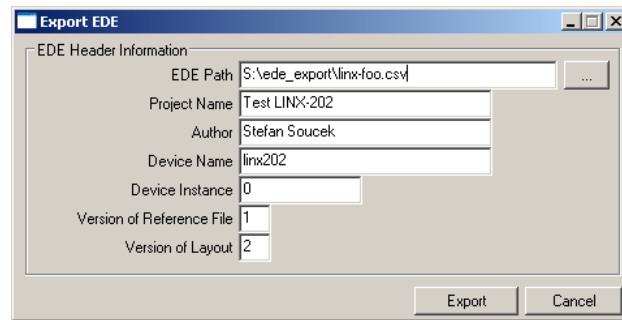

Figure 160: EDE Export Dialog.
2. Right-click and select **Export EDE ...** in the context menu. This opens the EDE export dialog to enter the EDE header information as shown in Figure 160.